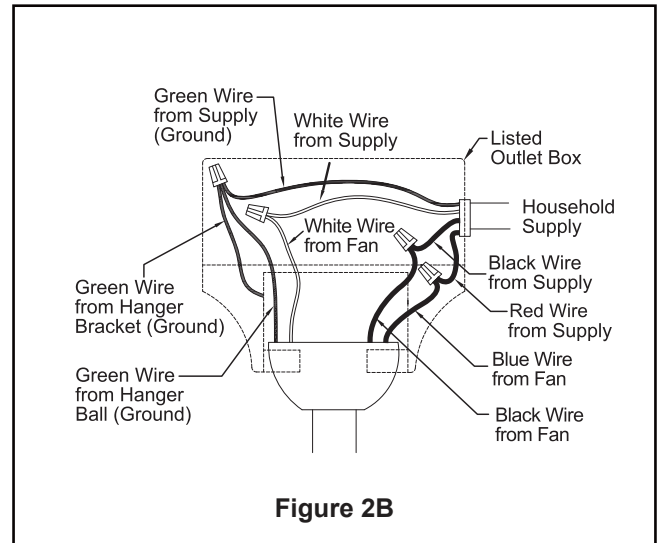

Figure 2B
1. Connect the green grounding lead from the downrod and the green grounding lead from the hanger bracket to the supply grounding conductor (this may be a bare wire or wire with green colored insulation). Securely connect wires with wire connector. Securely connect the white fan motor wire to the white supply (neutral) wire using wire connector. Securely connect the black fan motor wire to the black supply wire using wire connector. Securely connect the blue fan motor wire to the red supply wire using wire connector. (Figure 2B)